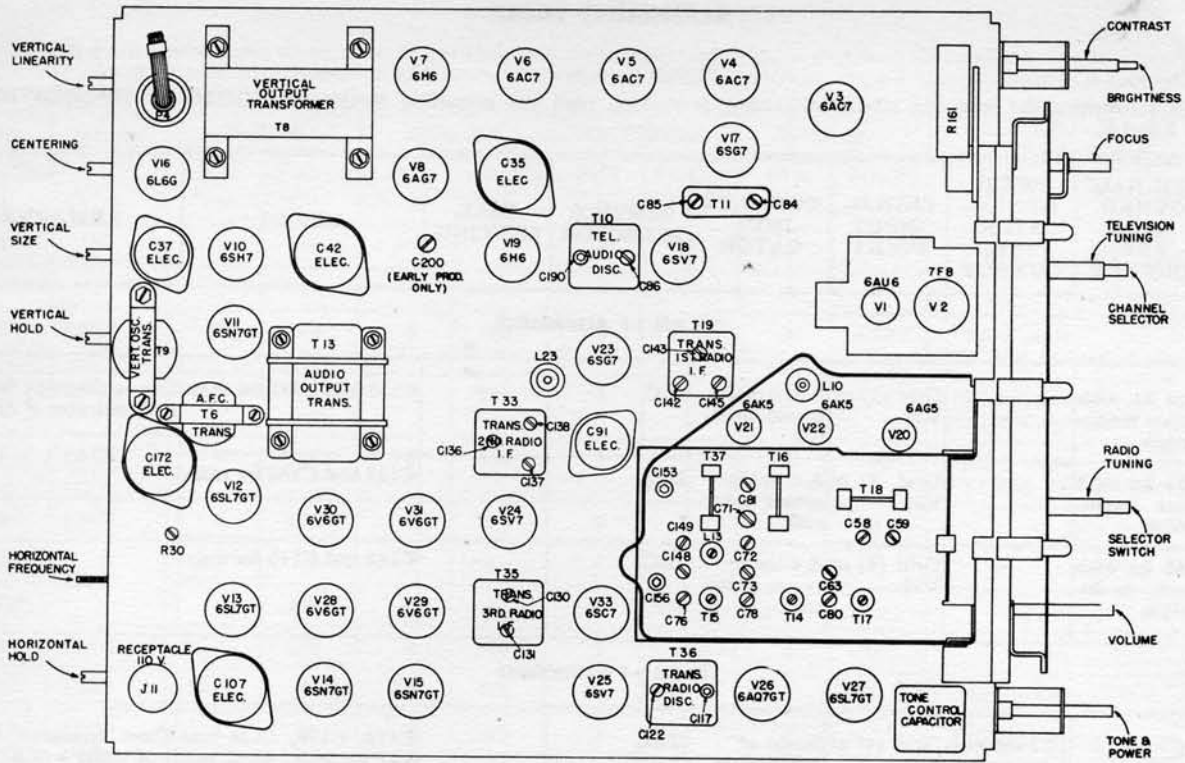

Fig. 15. Top View—Component Location of Receiver Chassis
**ALIGNMENT SUGGESTIONS**—All trimmer locations are shown in the drawing of Figures 15 and 16. Remove the radio chassis and power supply chassis from the cabinet and set them up on the test bench. **Precaution**—Since the picture tube anode voltage is not required in circuit alignment, it is desirable to remove the high voltage hazard by removing the horizontal sweep cathode follower, V15B, thus rendering the 27 kv power supply circuit inoperative.